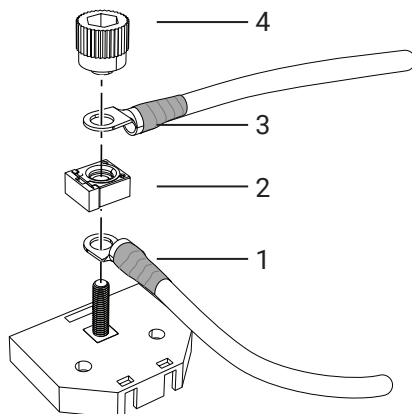
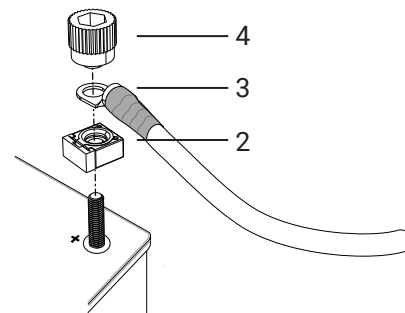

Figure 58. Connection to the fuse box
Figure 59. Connection to the battery's positive terminal
2. If applicable, ensure that the cab switch (CS) is in the "Off" position.
3. When using a fuse box, connect the cable (1) to the battery's positive terminal and to the fuse box and place the fuse (2) above, see Figure 58.
4. When connecting directly to the positive battery terminal, place the fuse (2) on the positive terminal, see Figure 58.
5. Connect the main power cable (3) to the fuse box / positive terminal, see Figure 58 - Figure 59.
6. Screw tight the cable connections and fuse with the knob (4). Install the cables at 90° or 180° from each other. Install the fuse at right angles to the cables; see Figure 58 - Figure 59.